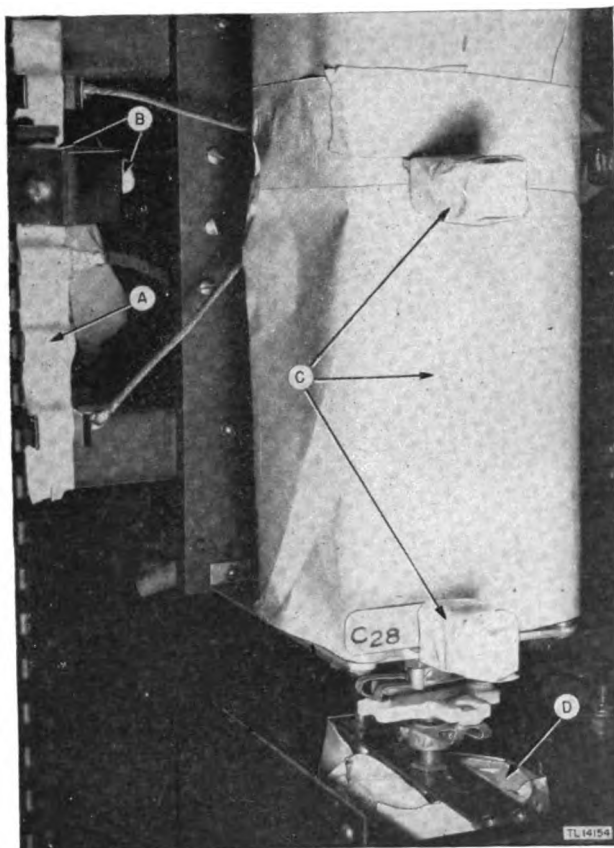

Figure 35. Radio Transmitter BC-610-E—top interior view of r-f chassis, showing method of masking.
(17) Jacks which receive antenna coil, item A, figure 35.
(18) Interlock switch, item B, figure 35.
(19) Plates of variable capacitor C_{12} and clip contacts of capacitor C_{28} , item C, figure 35.
(20) Drive gears of capacitor C_{12} , item D, figure 35.